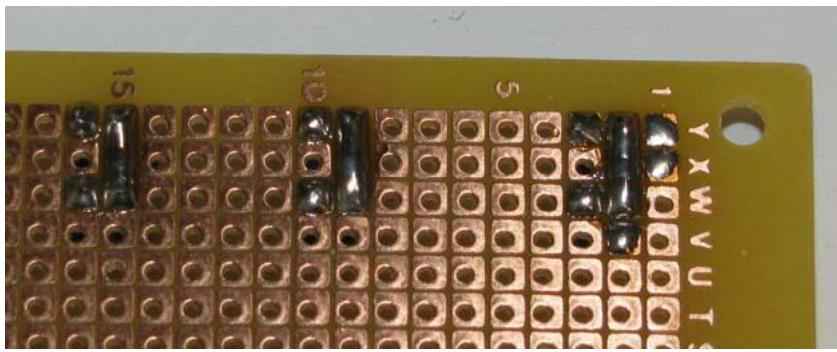

Figure 4-10. Make a “solder-bridge” between the anode of the emitter and the collector of the photo-transistor
3. After securing each sensor, solder the two pins together on the right side of each sensor pair, the anode of the emitter and collector of the photo-transistor (see Figure 4-10). You can bend the right-side leads until they are touching each other flat against the board–then solder them together, clipping off the extra with a set of plier snips.